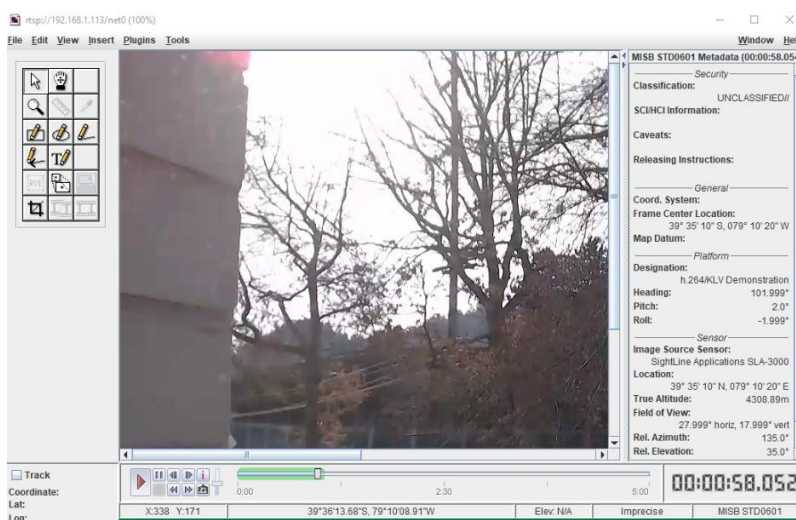

Figure F2: Video and Metadata - GV3.0 UI
8. After a short delay verify video and metadata are displaying from the GV3.0 main screen as show in **Figure F2**.